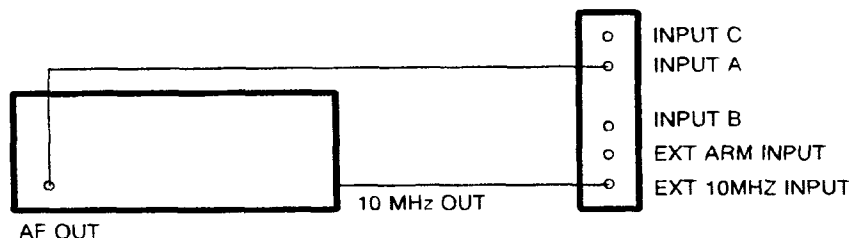

Figure 5-1. Input A Low Frequency Sensitivity Test Configuration
2. Connect the Function Generator to the VX4223 as shown in Figure 5-1.